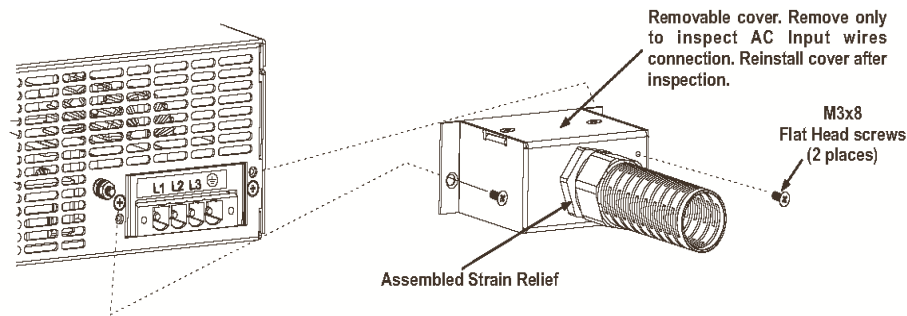

Fig.3-4: AC input cover and strain relief
- f. Route the wires inside the cover to prevent pinching. Fasten the cover to the unit using the M3x8 Flat Head screws are provided. Refer to Fig.3-4 for details. Tighten screws securely (4.8 - 4.9LB-inch, 0.54-0.55 Nm)